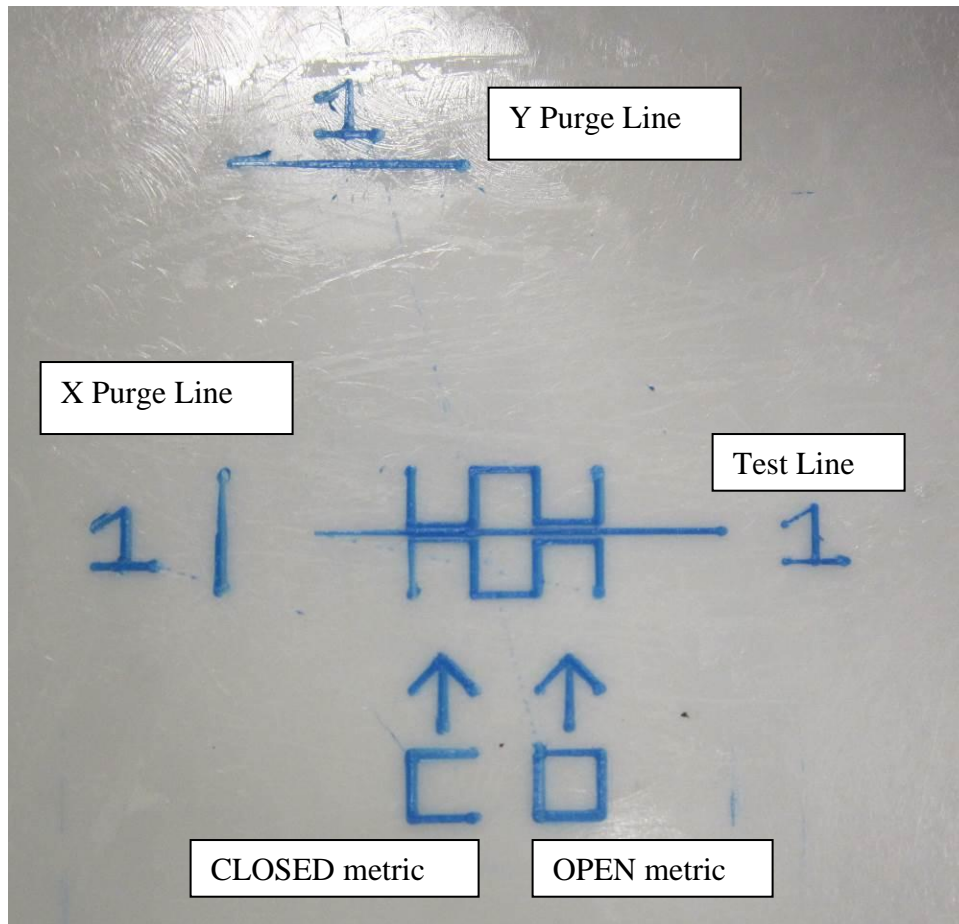

Figure 1. Printed Metric that has correct Z-GAP.
- a. The C Arrow in Figure 1 designates the CLOSED metric where NO space should be open above or below the test line. It should be CLOSED.
- b. The O Arrow in Figure 1 designates the OPEN metric where space MUST be open above and below the line. It should be OPEN.